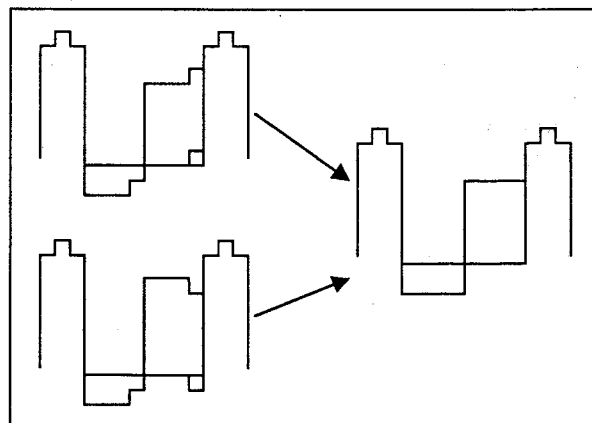

Fig. 14
6. Adjust R4034 (V. Apa. centre) to achieve waveform shown in Fig. 14.